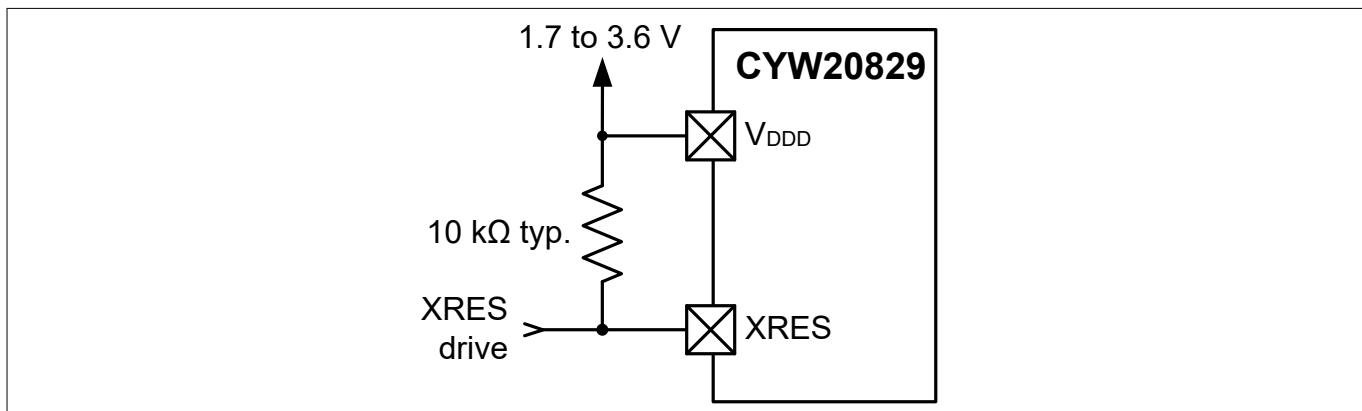

Figure 6 XRES connection diagram
- External reset dedicated pin (XRES) to reset the device using an external source. The XRES pin is active LOW. It can be connected either to a pull-up resistor to VDDD, or to an active drive circuit, as Figure 6 shows. If a pull-up resistor is used, select its value to minimize current draw when the pin is pulled LOW; 10 k Ω is typical